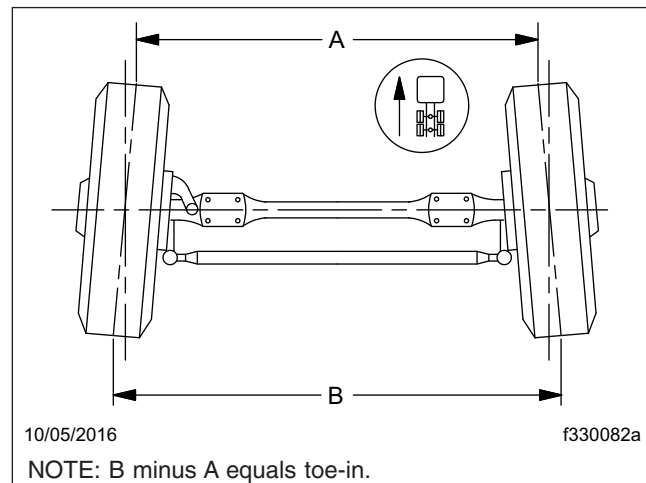

Fig. 10, Wheel Toe-In (overhead view)
6. Place a trammel bar at the rear of the front tires; locate the trammel pointers at spindle height, and adjust the pointers to line up with the scribe lines on the center ribs of the front tires. See Fig. 10. Lock in place. Check that the scale is set on zero.